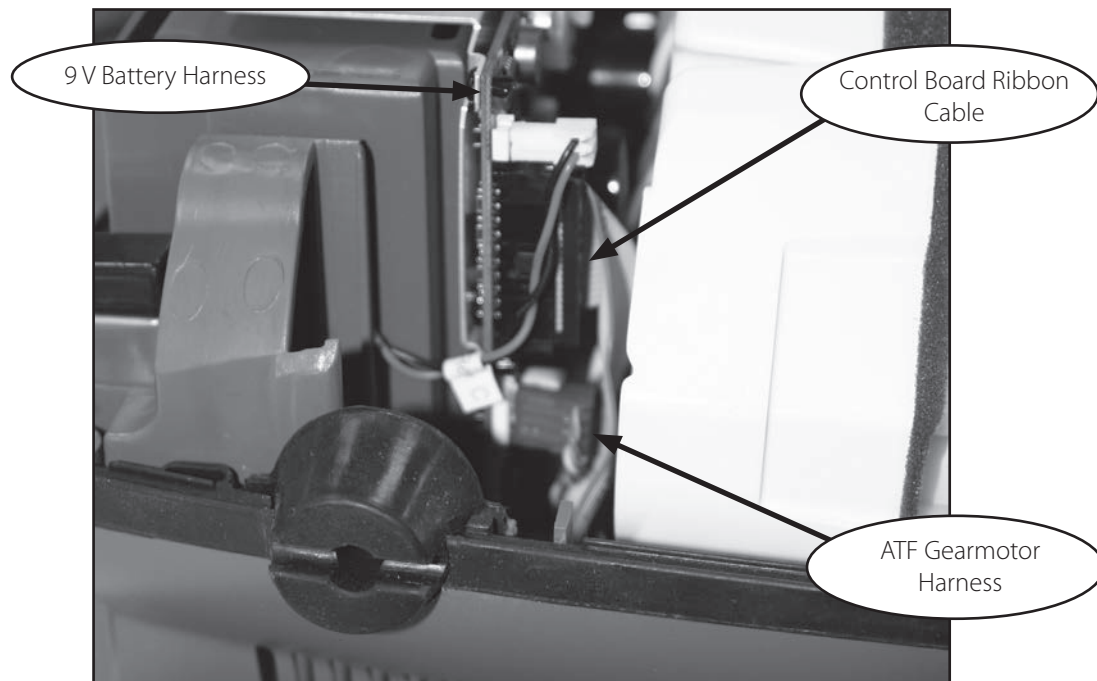

Fig 50: Wire harnesses and control board ribbon
- 1.6 Pull the Power Manager pcb 1" out of the case. Gently push the compressor box away from the Power Manager pcb about 1/8". Slide the board and the cabling out from under the edge of the compressor for better access. Disconnect the two wire harnesses (9V batt & ATF harness) and the Control board ribbon cable shown in Fig 50. Remove the Power Manager pcb.